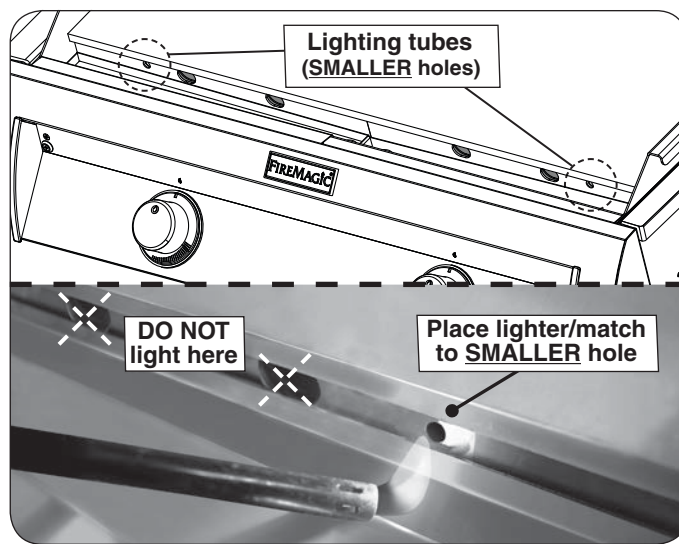

Fig. 21-3 - Manual lighting
**CAUTION:** Always wait five (5) minutes for gas to clear after any unsuccessful lighting attempt.
2. Hold a burning long-barrel butane lighter or burning long-stem match up to the opening of the lighting tube (**SMALLER hole**) **for 5 seconds**. Then depress the appropriate control knob and while pressing turn it counterclockwise to the **HI LIGHT** position. Remove the lighter or match when the burner lights, and release the control knob. See Fig. 21-3.
4. If the burner does not light within five (5) seconds of turning the control knob, **immediately depress the knob and turn the valve to OFF**. **WAIT FIVE (5) MINUTES** before repeating steps 2 through 4 of the **MANUAL LIGHTING** instructions.